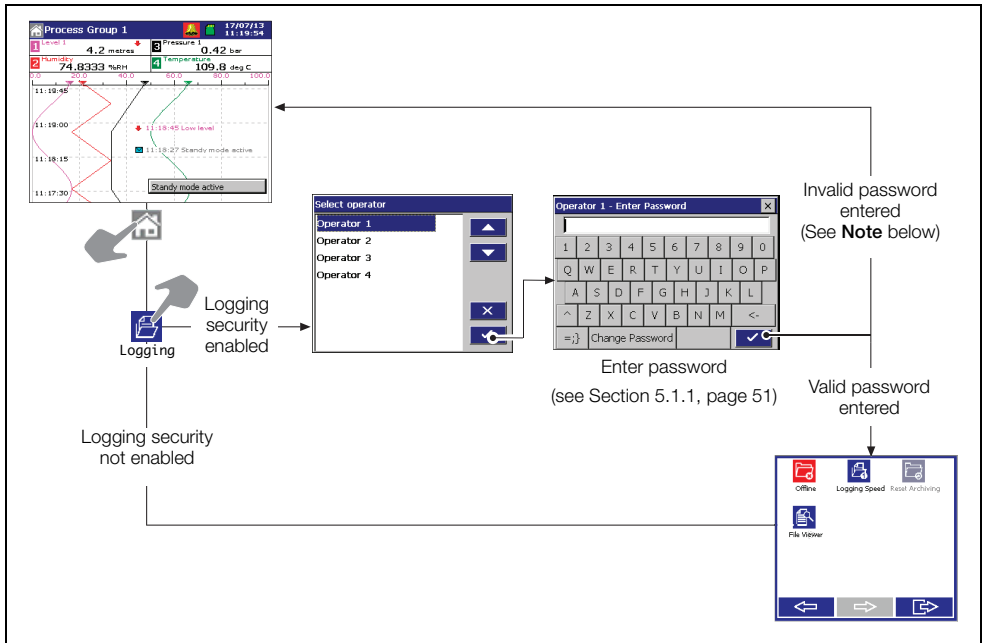

Fig. 5.2 Accessing logging – advanced security
- If Security System is set to *Advanced* and Logging Security is set to *On*, access to the Logging facility is protected by a unique password for each authorized user. Refer to Fig. 5.2, page 50 to access Logging.